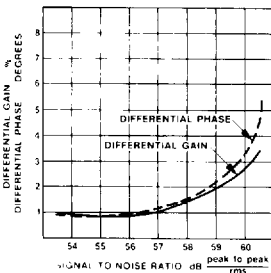

Fig. 3
10. Video S/N is defined as the ratio the peak-to-peak output signal to RMS random (temporal) noise. The peak-to-peak signal is the maximum output level that satisfies the ΔG and $\Delta\phi$ specs. See Fig. 3.